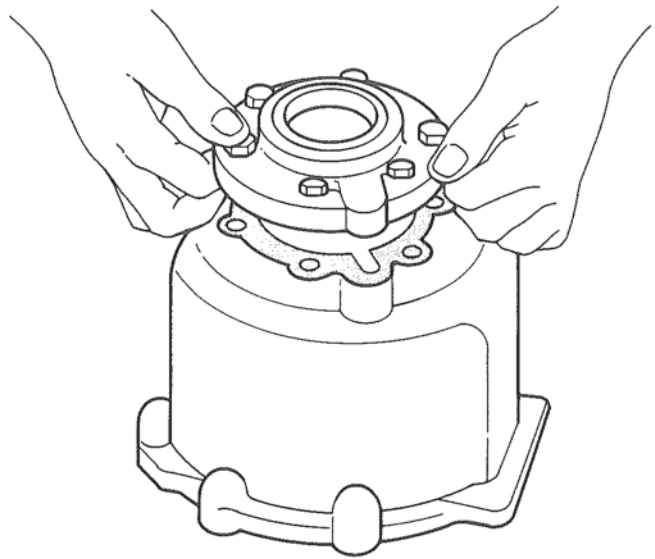

Figure 24. Installing Bearing Retainer and Gasket.
1. Place the bearing retainer gasket on the reduction housing aligning the slot with the oil passage. Figure 24. The gasket may be coated with petroleum jelly for easier assembly.